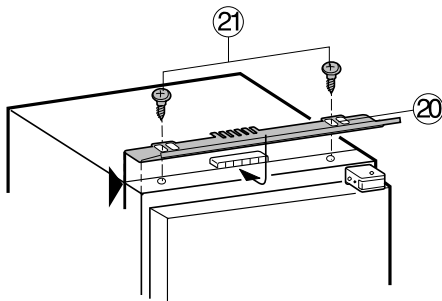

Figure 15
- Insert the equalizer trim (Fig. 15, 20) in the slot so it is **flush on the handle side** and on the edge of the appliance front. Secure to the appliance with collar screws (Fig. 15, 21).